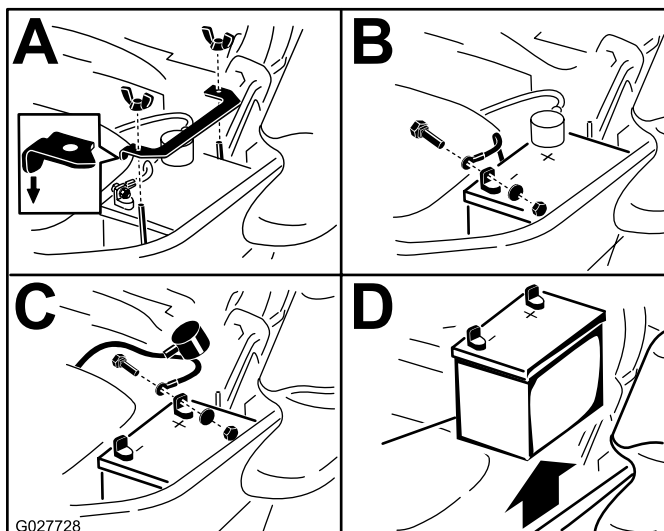

Figure 56
3. First disconnect the negative battery cable (black) from the negative (-)(black) battery terminal (Figure 56).
4. Slide the red terminal boot off the positive (red) battery terminal and remove the positive (+)(red) battery cable (Figure 56).
5. Remove the wing nut securing the battery clamp (Figure 56).
6. Remove the clamp (Figure 56).
1. Position battery in the tray with the terminal posts opposite from the hydraulic tank (Figure 56).
- Secure the cables with 2 bolts, 2 washers, and 2 locknuts (Figure 56).
- Install the clamp and secure it with the wing nut (Figure 56).